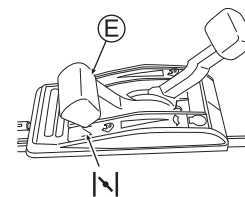

Fig. 11
3. Set the throttle lever (E) to choking "N". (See Fig. 11) (The engine can start by setting the lever at "N" when it is warm.)